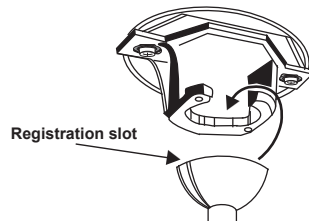

Fig.7
Step 7. Place the downrod ball into the hanger bracket socket. This will allow you to make the electrical connections. (Fig.7)